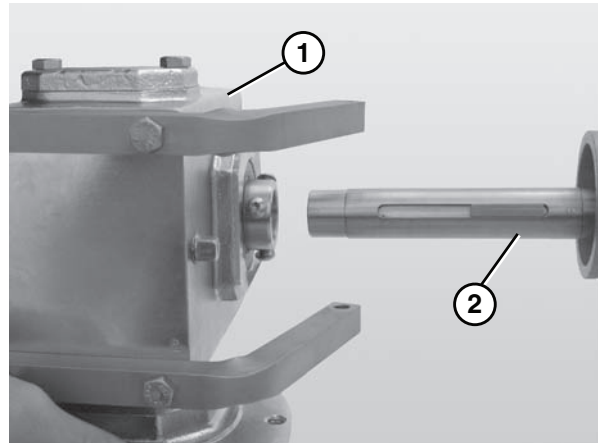

Figure 36
5. Slide the gearmotor assembly (Figure 36, item 1) off the drive spindle (Figure 36, item 2).